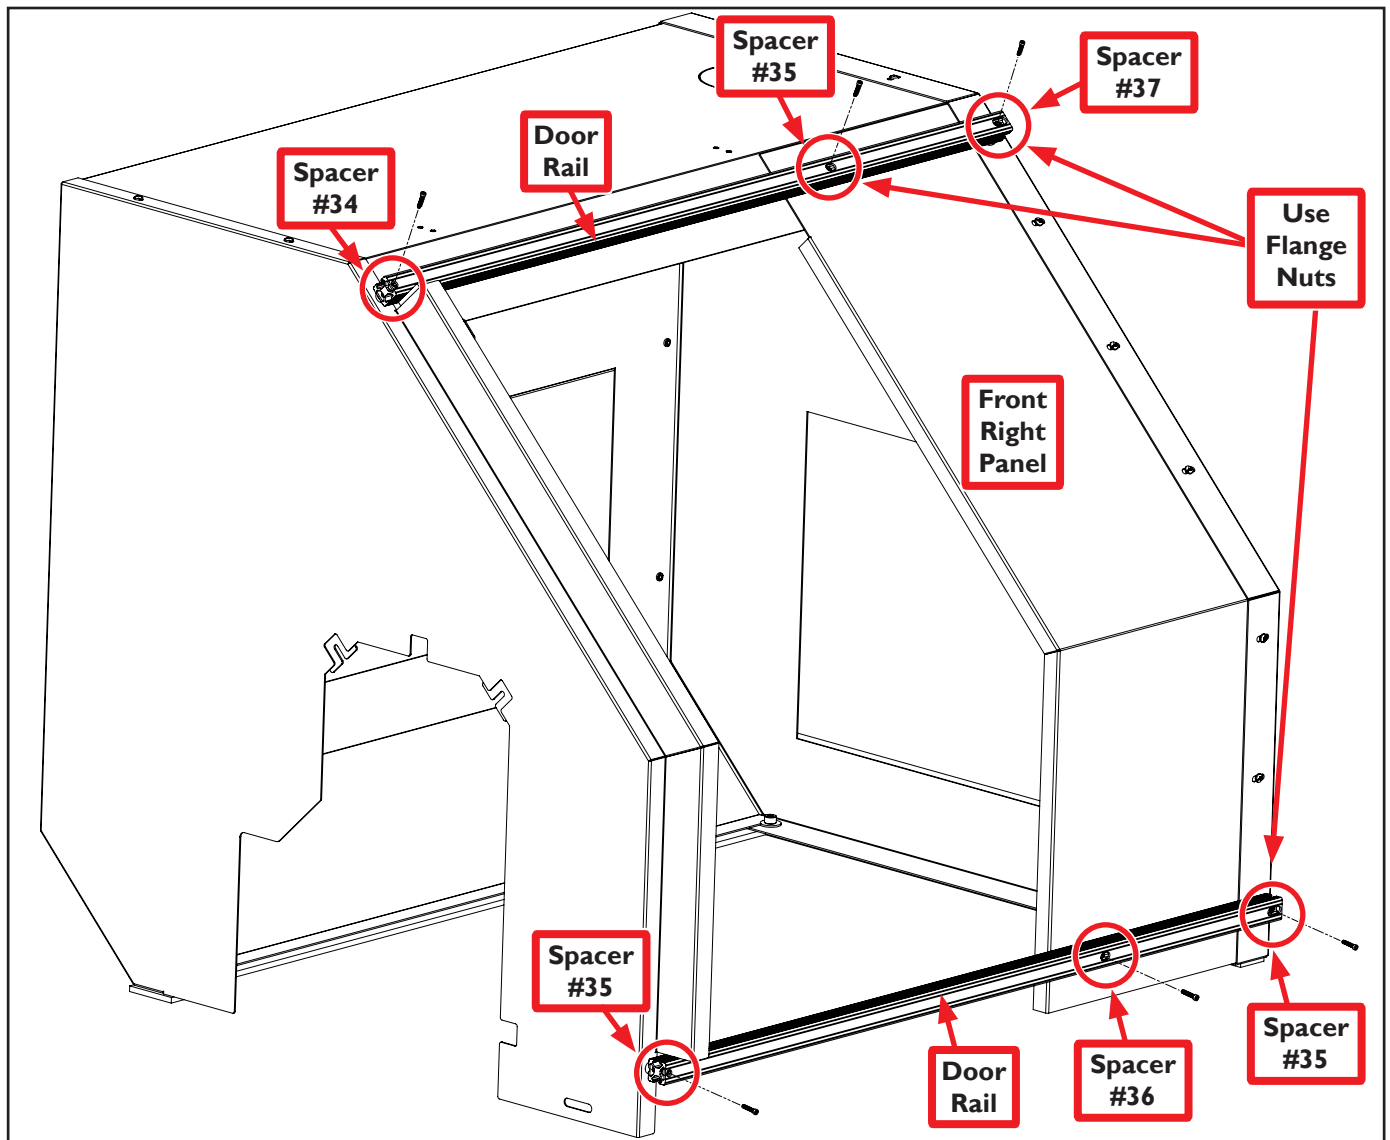

Figure 8
6. Secure each of the two Door Rails to the top and bottom of the enclosure with three 10-32 x 1.5" Socket Head Cap Screws (see **Figure 8**). Insert Door Rail Spacers between each Door Rail and enclosure for support (see **Figure 8**). Three of the six Door Rail screws are fastened with 10-32 Flange Nuts as shown in **Figure 8**.